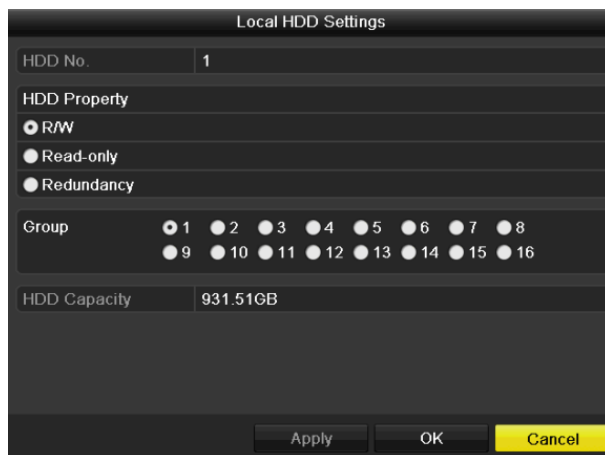

Figure 10. 17 Set HDD Property
2. Select HDD from the list and click the  icon to enter the Local HDD Settings interface, as shown in Figure 10. 17.